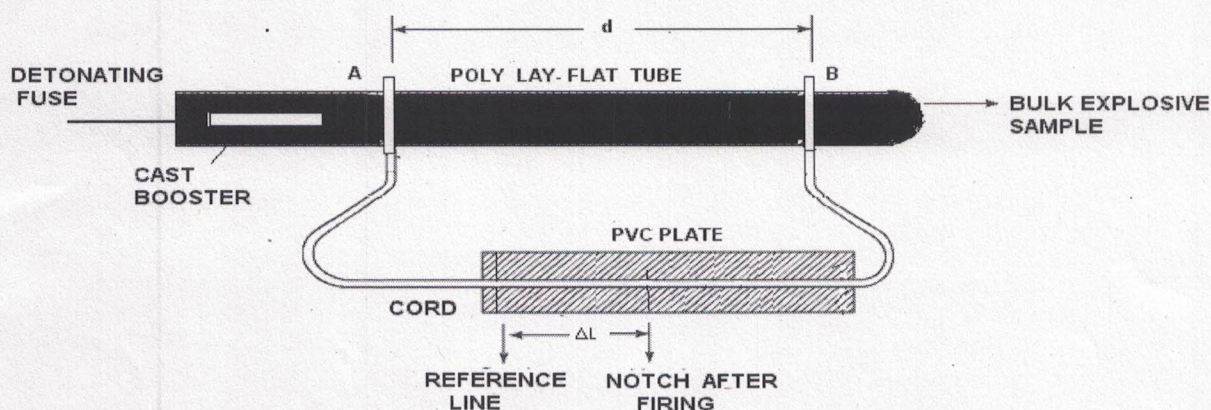

Fig 2: Typical photograph of experimental setup for Dautriche method
- i. The typical sketch of the experimental set up in of Dautriche respect is shown in figure 2.